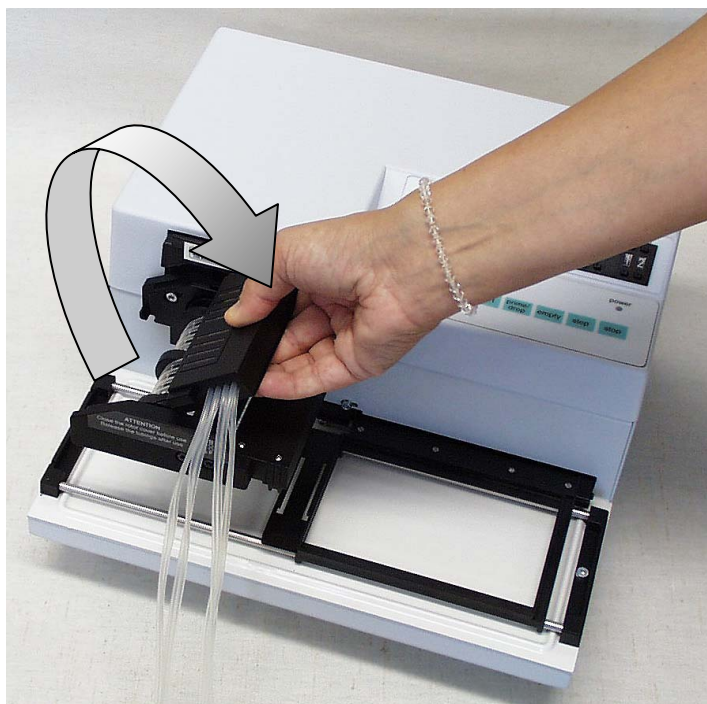

Fig. 6.3 Inserting the upper part of the dispensing cassette
3. Take a firm grip on the upper part of the cassette with your right hand and carefully pull the tubes around the pump rotor until the upper part reaches and fits into the upper part slots of the pump body (*Fig. 6.3* and *Fig. 4.1*).